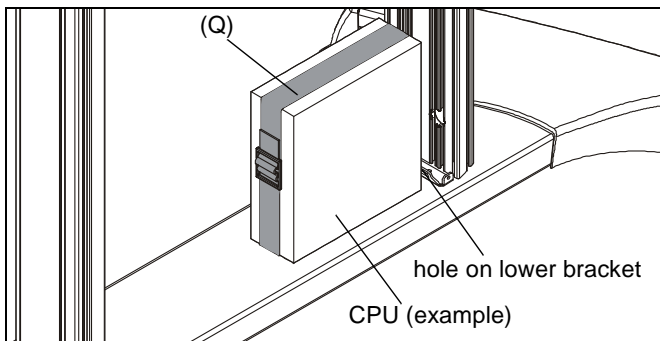

Figure 5
1. Route CPU strap (Q) through hole on lower bracket and around CPU to secure CPU to column base. (See Figure 5)